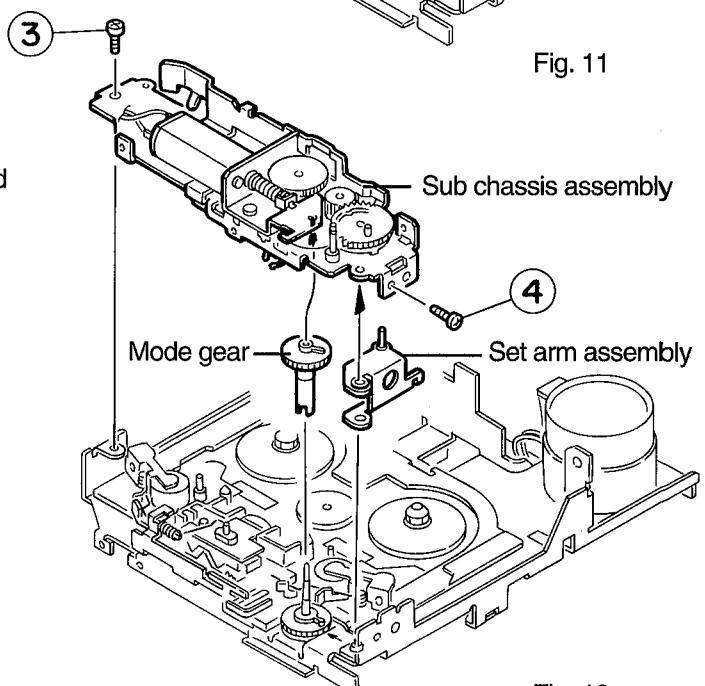

Fig. 12
**■ Removing the Flywheel Assembly ( See Fig. 12)**
2. Install the sub chassis assembly and secure it with the two screws ③ and ④ as shown in.
- Note : The set arm assembly and the mode gear should be positioned as shown in Fig. 12.